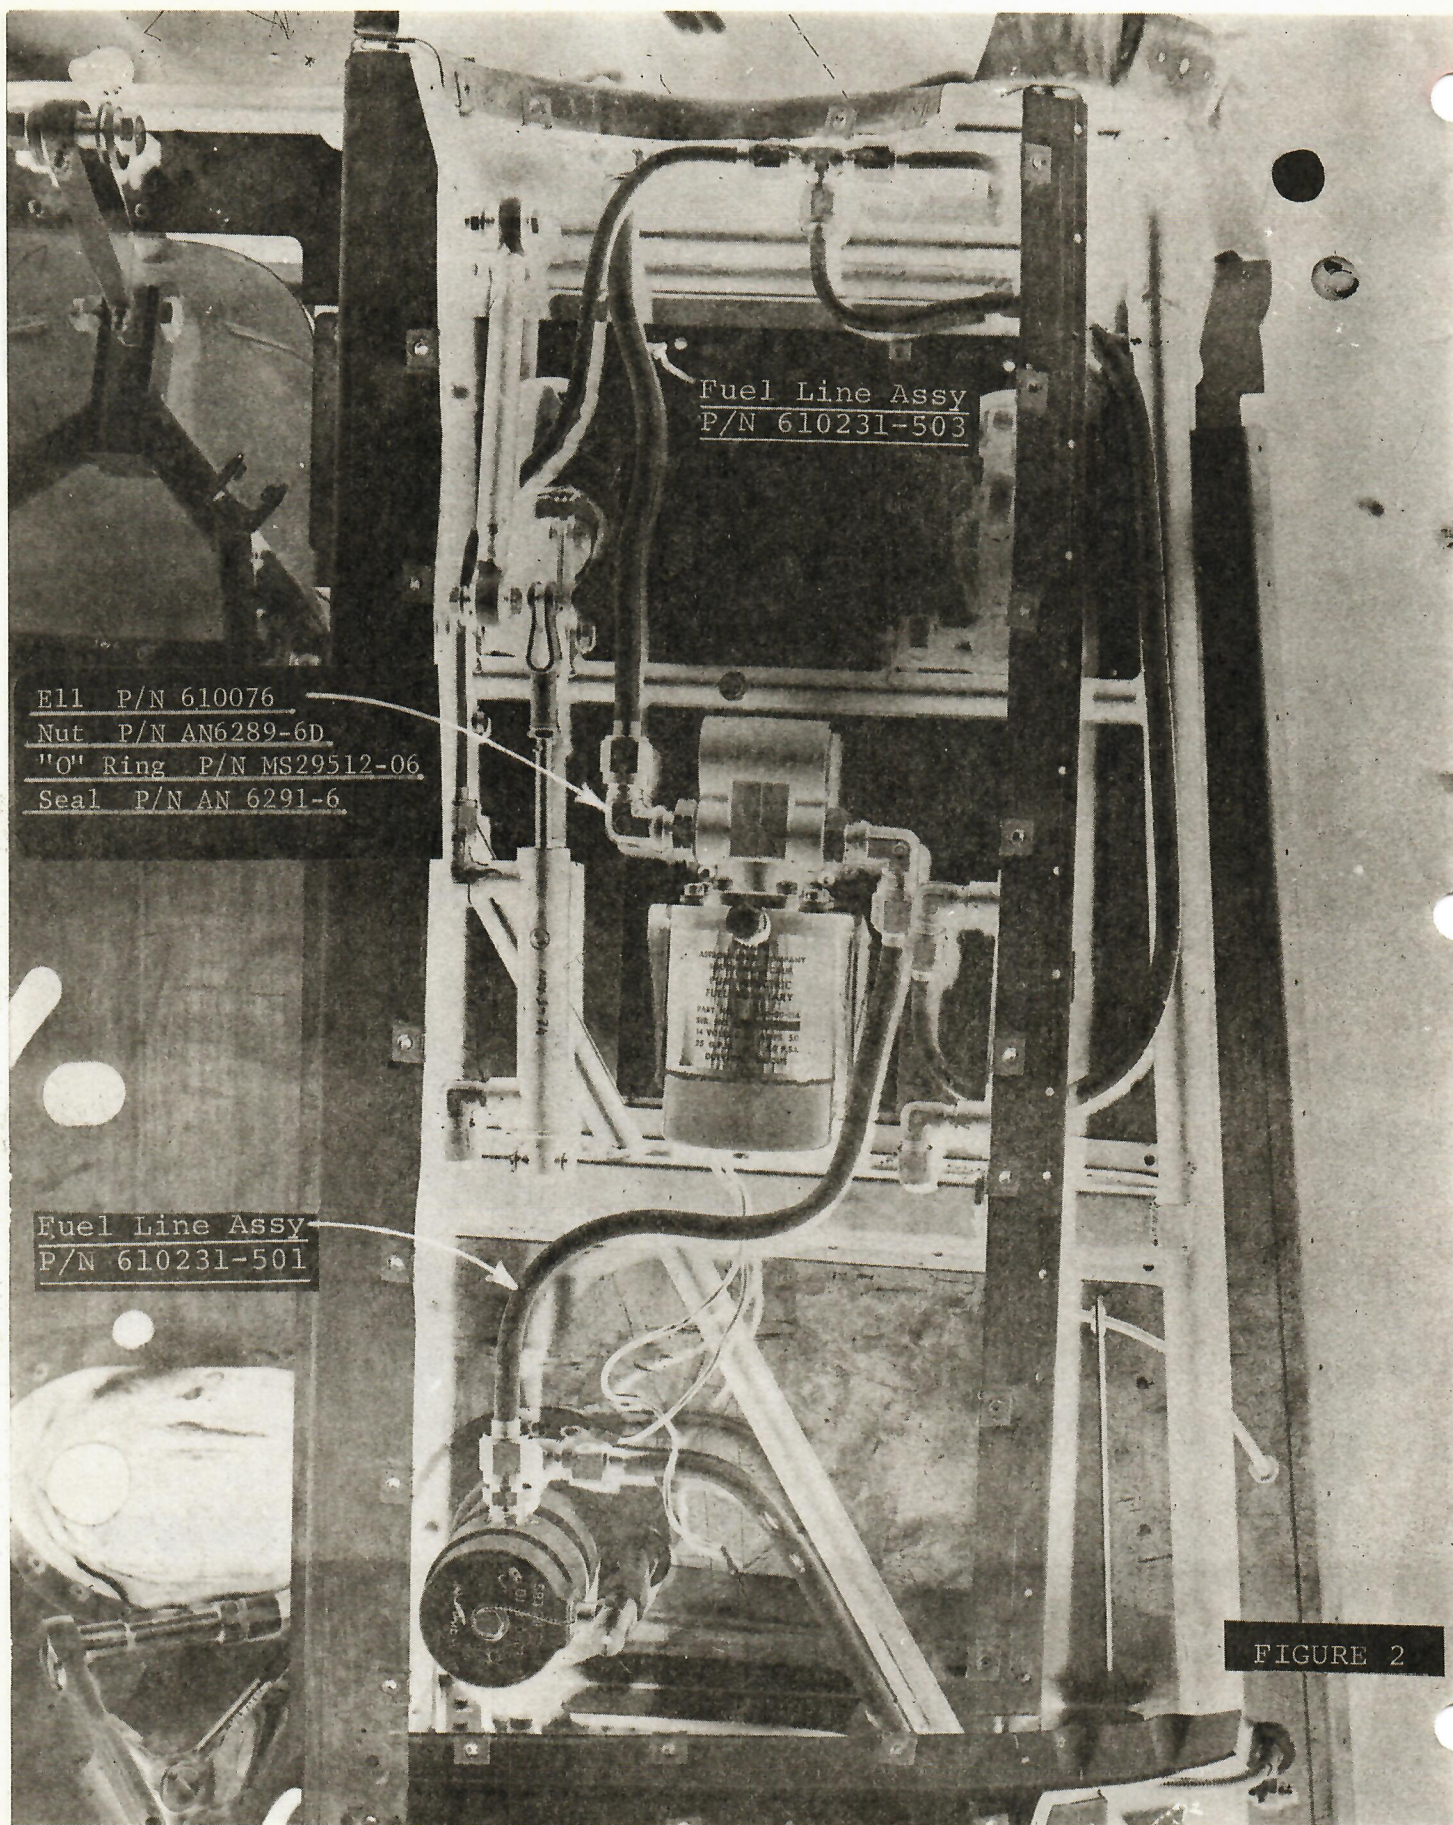

FIGURE 2
10. Install fuel line 610231-501 connecting the selector valve to the electric pump. See Fig. 2.
11. Install fuel line 610231-503 connecting the electric pump to the 45° bulkhead ell at the firewall. See Fig. 2.